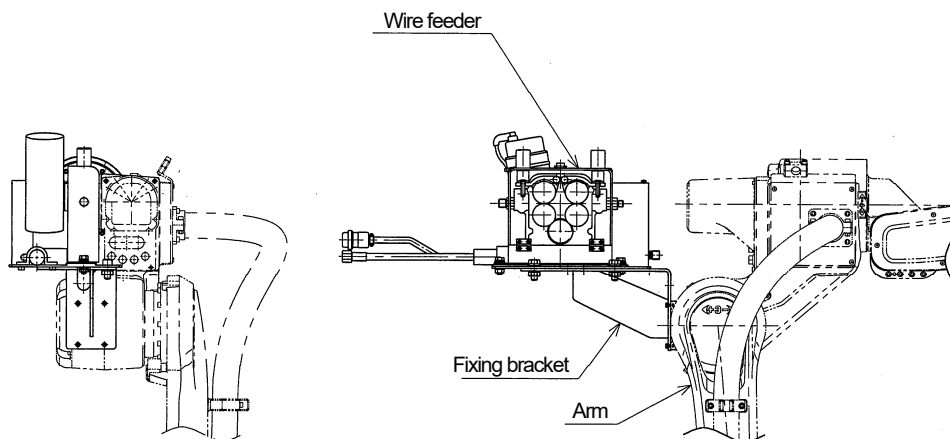

Figure 1.3 Outline view of mounting wire feeder (Procedure 3)
3. Figure 1.3 shows the state after the wire feeder is mounted.